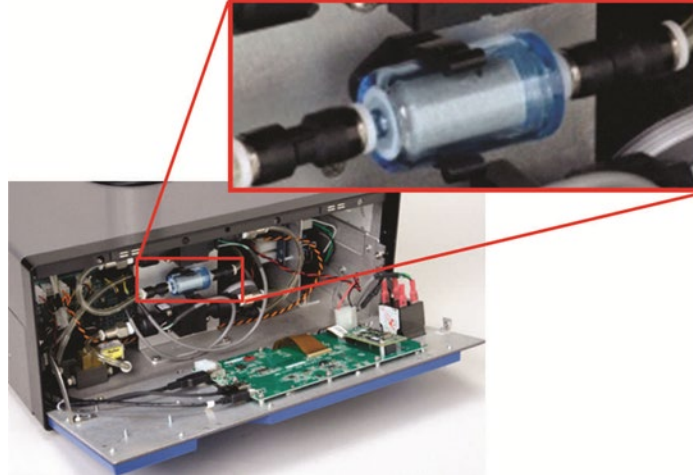

Figure 4. Internal DFU
5. Noting its orientation, remove the old DFU by detaching from the pneumatic quick-connect fittings, and replace with a new DFU matching the orientation (Figure 4).